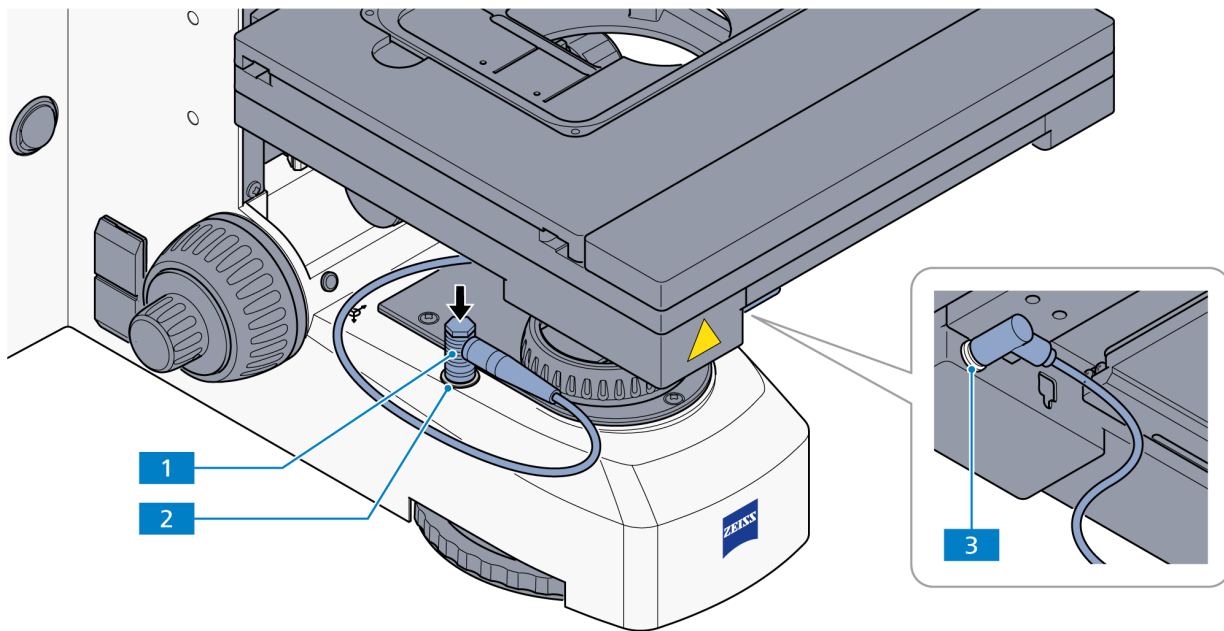

Fig. 3-20 Plugging in the power cable of the motorized mechanical stage
- Unplug the power cable connector (Fig. 3-20/1) of the stage from the socket on the stand (Fig. 3-20/2).
- Plug the power cable connectors (Fig. 3-20/1) into the sockets on the stage (Fig. 3-20/3) and on the stand (Fig. 3-20/2).